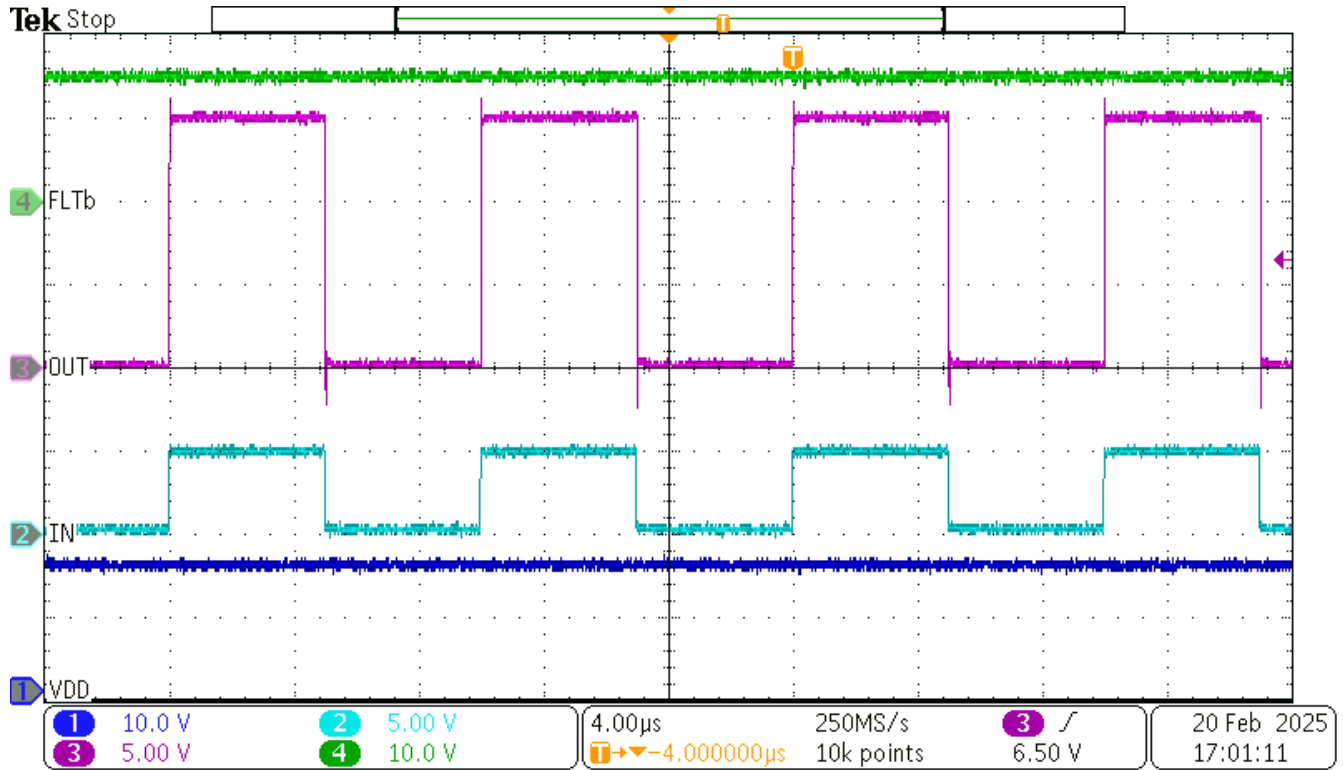

Figure 3-2. Reference Waveforms For When PSU #2 is Off
- b. Check the FLTb and OUT signals. **FLTb** should be high and **OUT** should be stable. Refer to Figure 3-2 for details.
- d. Turn off PSU #2 and recheck the FLTb and OUT signals. **FLTb** should be high and **OUT** should be stable. Refer to Figure 3-2 for details.